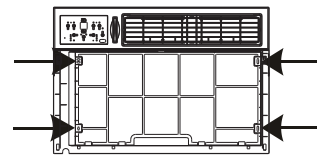

Fig. 2
3. Locate the four front screws and remove. These screws will be needed to re-install the front panel (see Fig.2).